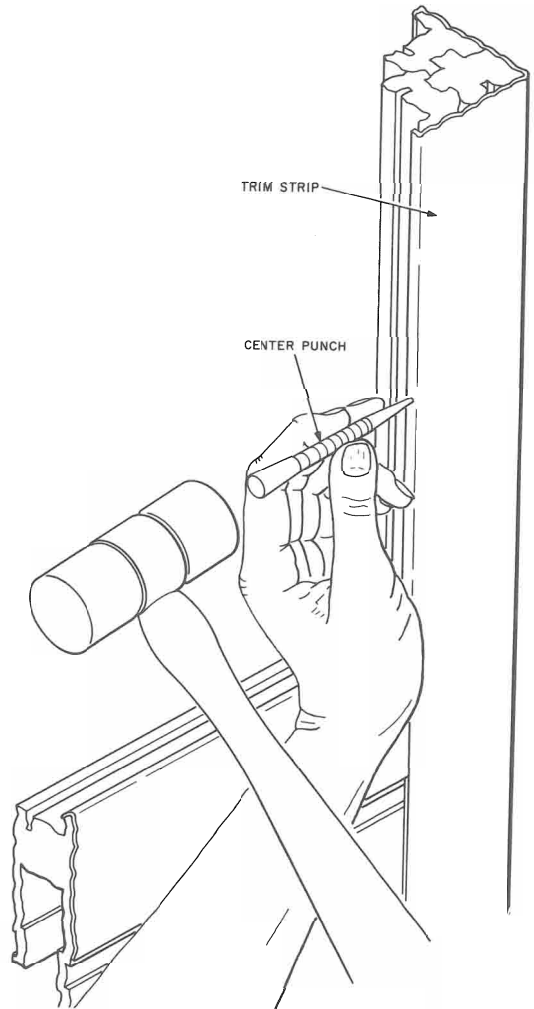

Fig. 17—Method of Crimping Trim Strips
- (7) Crimp the top edge of the T6 trim strip approximately every 6 inches using RS-14770 soft face hammer and a center punch (Fig. 17).
- (8) Crimp the top edge of the T5 trim strip approximately every 6 inches using RS-14770 soft face hammer and a center punch (Fig. 17).